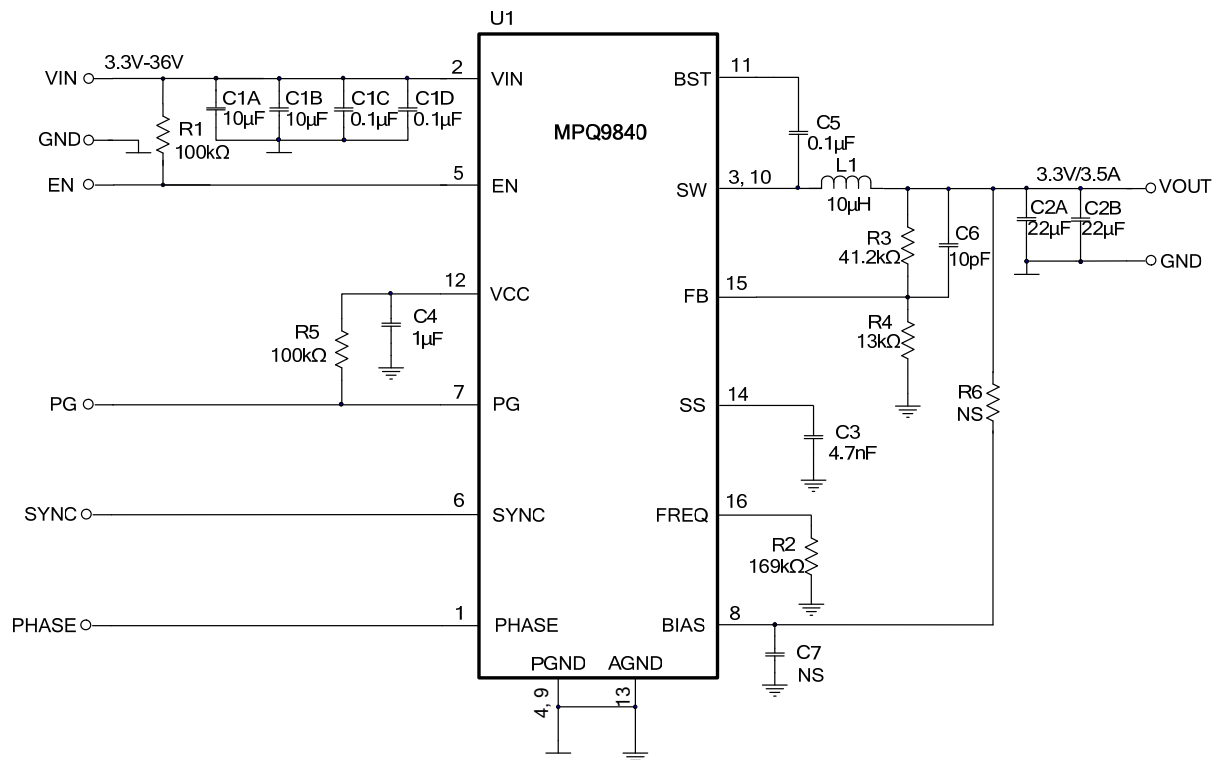

Figure 8: $V_{OUT} = 3.3V$, $F_{SW} = 500kHz$
8) The recommended PCB layout is based on Figure 8.